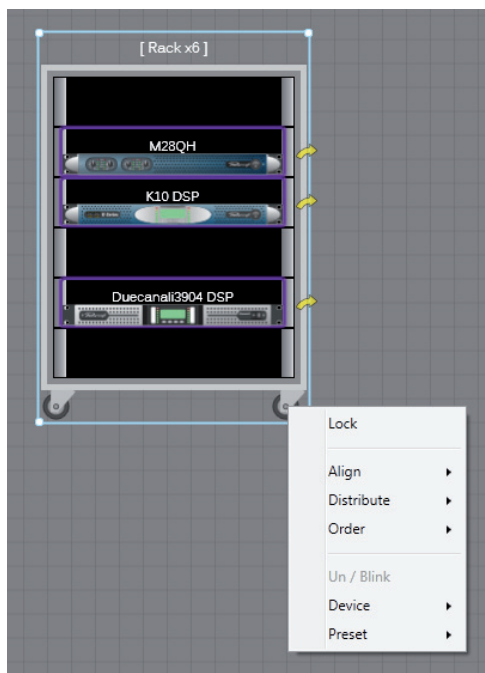

FIGURE 3: Rack context menu.
**Copy&Paste** – Under the Device option of the context menu you can select the commands that allows you to copy into the clipboard the actual amplifiers' configuration of the rack and paste it to another assembled rack (see FIGURE 3).
**Export&Import** – The Preset option of the rack context menu allows you to export and import the rack configuration (see FIGURE 3): by means of the export command you can save the configuration of the amplifiers' rack assembly in a proprietary file format with .rack extension.